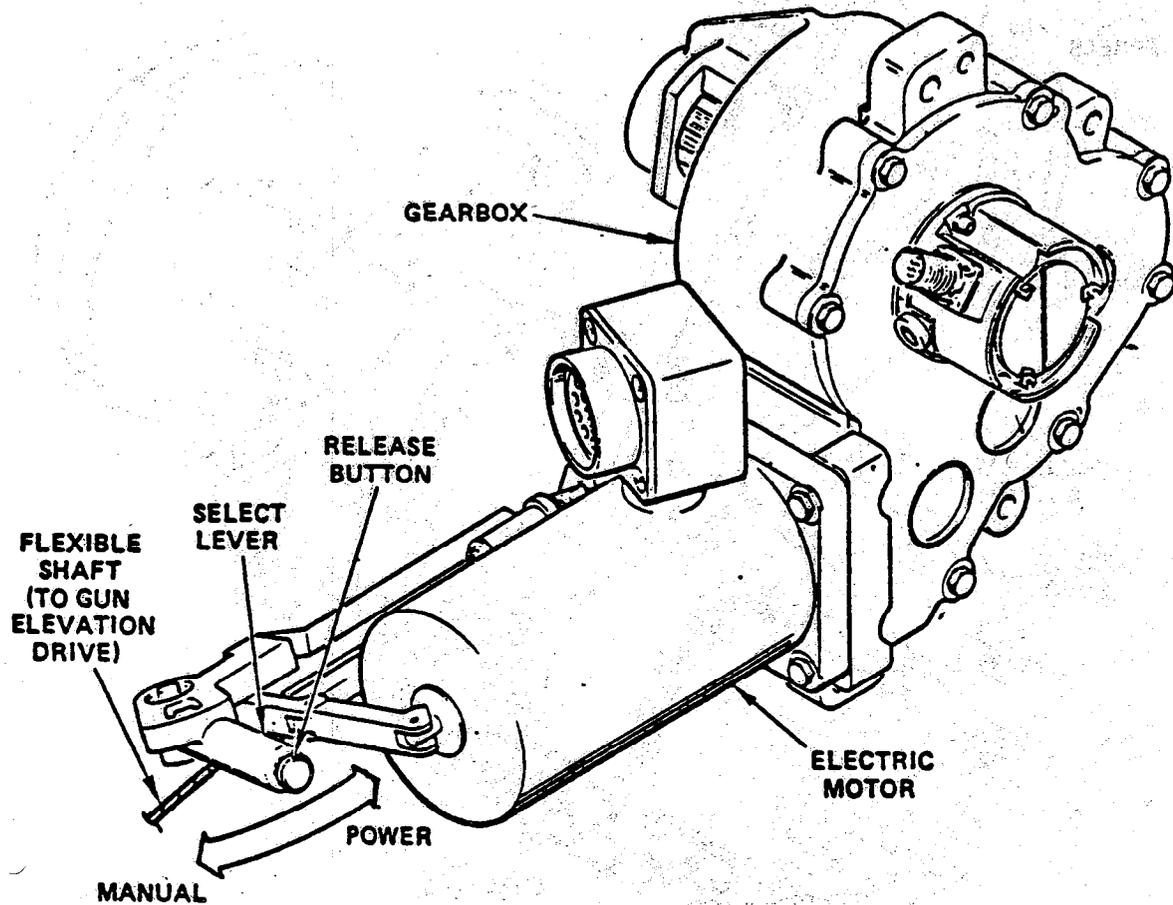

Fig. 15
- c. TOW Elevation Drive - drives TOW rotor from -19° to $+29^{\circ}$ in power mode. Manual mode uses gun elevation manual handcrank through an interconnecting drive cable (same limits). (See Fig. 15.)